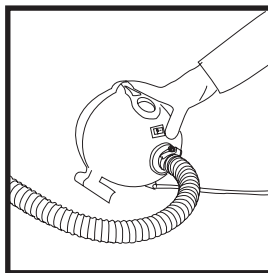

Fig. 3
6. Use the pump to inflate the product until you feel it is completely taut (you will hear the sound of the pump changing) (Fig. 3).